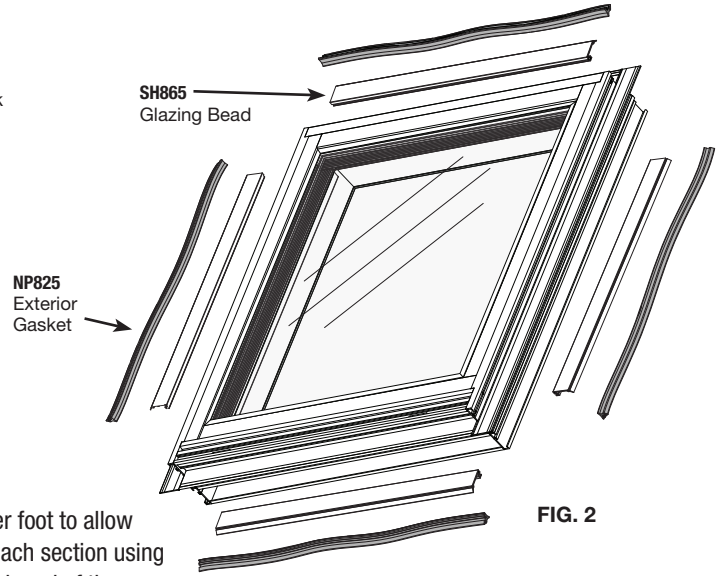

FIG. 2
Step 4: Support the frame at a 10°-15° angle and insert the Glass Panel, working it into position against the frame blocks **Figure 2**